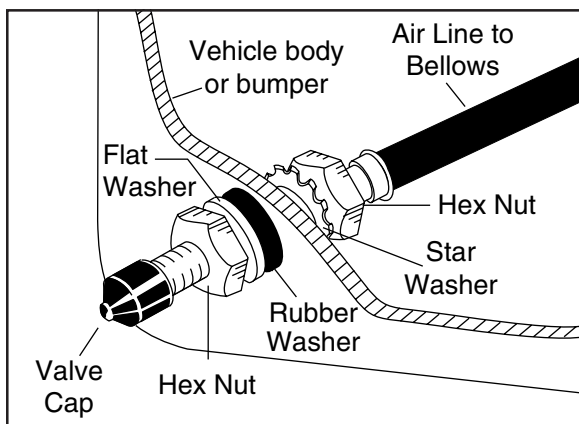

Figure 23
Place a 5/16" nut (GG) and a star washer (FF) on the air valve. Leave enough of the inflation valve in front of the nut to extend through the hole and have room for the rubber washer (EE), flat washer (DD), and 5/16" nut (GG) and cap (CC). There should be enough valve exposed after installation - approximately 1/2" - to easily apply a pressure gauge or an air chuck (Fig. 23).